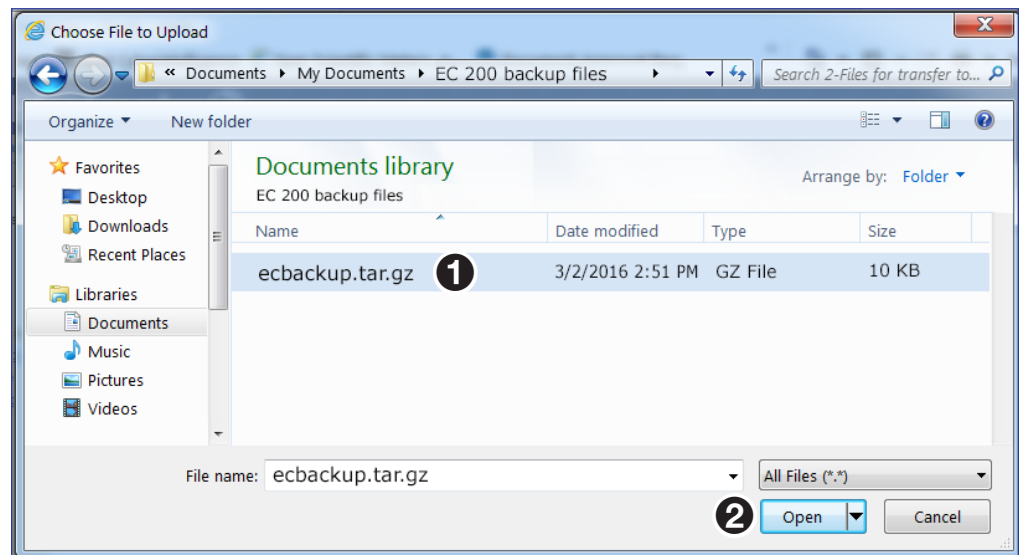

Figure 183. Restore Data Dialog
4. Navigate to, then click to highlight the previously stored backup file (see figure 183, ①), `ecbackup.tar.gz` in the example.
5. Click **Open** (②).